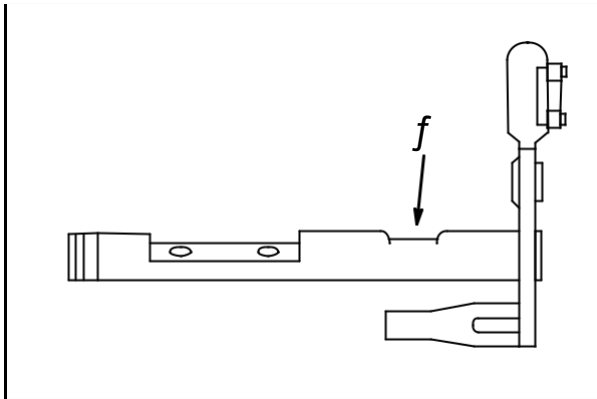

Fig. 77
Inspect throttle shaft and choke shaft for wear (3), **Fig. 77**. Replace if worn.